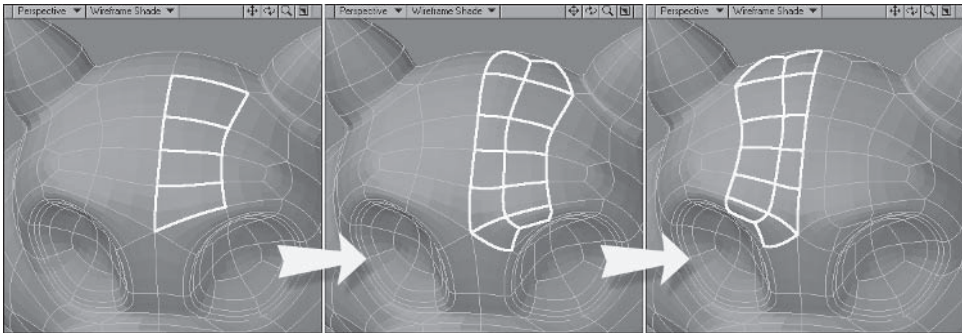

Figure 5.3-82. Creating the inside edges of the eyebrows.
3. Select the polygons shown in Figure 5.3-82 from front to back and **Cut**. In the Cut options panel, delete the division at **0.7**, check **Select Outer Edges**, and click **Continue**.